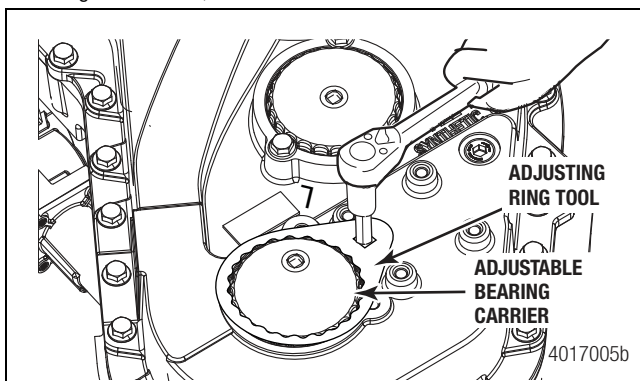
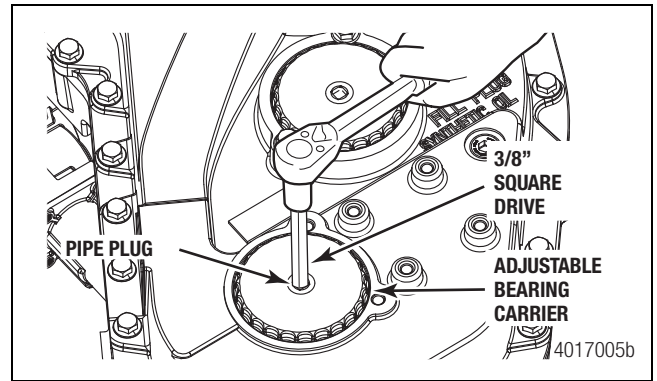

Figure 7
Figure 8
- With the original orientation of the adjustable bearing carrier clearly marked, place the OEM tool on the face of the bearing carrier. **Do NOT rotate the bearing carrier yet.** Figure 7. Alternately a 3/8" square drive inserted into the pipe plug on the face of the bearing carrier can be used. Figure 8.
- With the tool in Figure 7, slowly begin to rotate the adjustable bearing carrier counter-clockwise while counting the full revolutions past your original starting mark. Figure 8.
2. In the clockwise direction, carefully start the threads of the adjustable bearing carrier back into the case bore, using caution to not damage the o-ring. Once the carrier threads are engaged in the case, begin to thread the carrier clockwise while counting the rotations until the carrier stops rotating past your original reference mark. Note the bearing carrier will only rotate slightly past the original reference mark. At this time, the carrier should be returned to a preloaded state. Rotate the carrier counter-clockwise slightly until the original reference mark on the carrier is lined up to your original reference mark on the case. Figures 7 & 8.